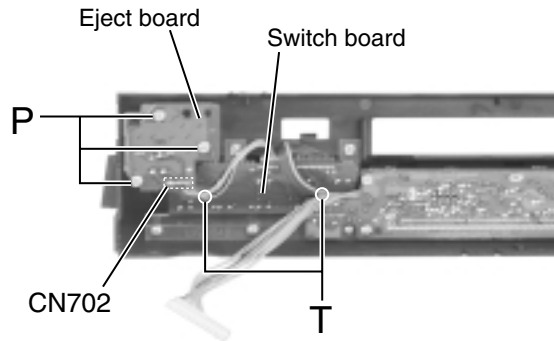

Fig.28
**■Removing the eject board (See Fig.28)**
**■Removing the switch board (See Fig.28)**